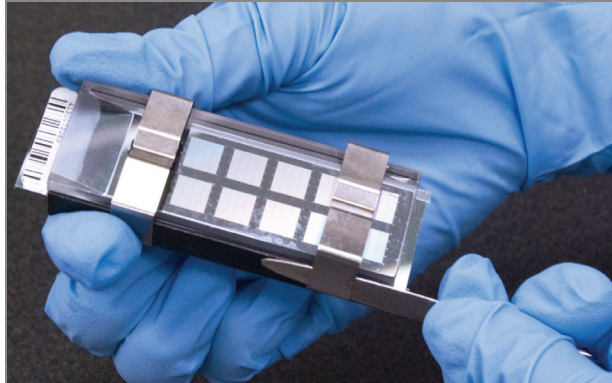

Figure 182 Removing the Metal Clamps from Flow-Through Chamber
- a. Use the dismantling tool to remove the two metal clamps (Figure 182).